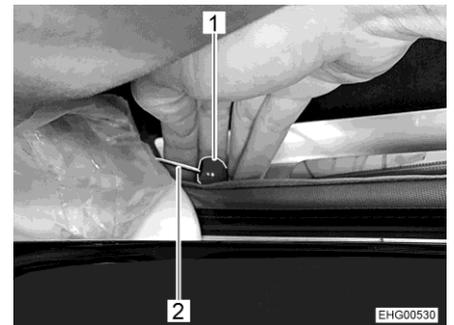

Fig. 39 Emergency release
- Pull the red button (Fig. 39,1) of the cable control (Fig. 39,2) on both sides.